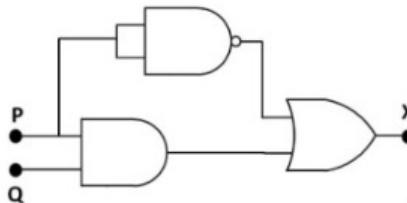

Fig. 3.8
19. Which one of the following options is CORRECT for the given circuit in Fig. 3.8? (GATE PHYSICS 2023)